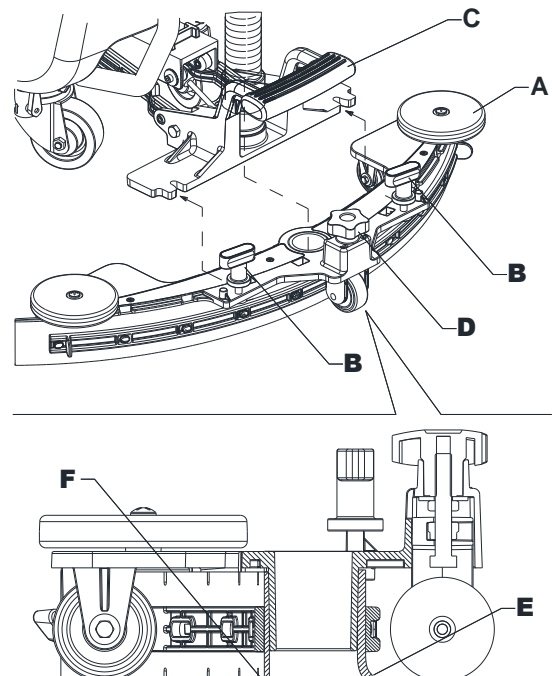

Figure 7
1. Install the squeegee (A, Fig. 7) and fasten it to the bracket (C) with the handwheels (B).
2. If necessary, adjust the squeegee with the knob (D) so that the rear blade (E) and front blade (F) touch the floor as shown in the figure.